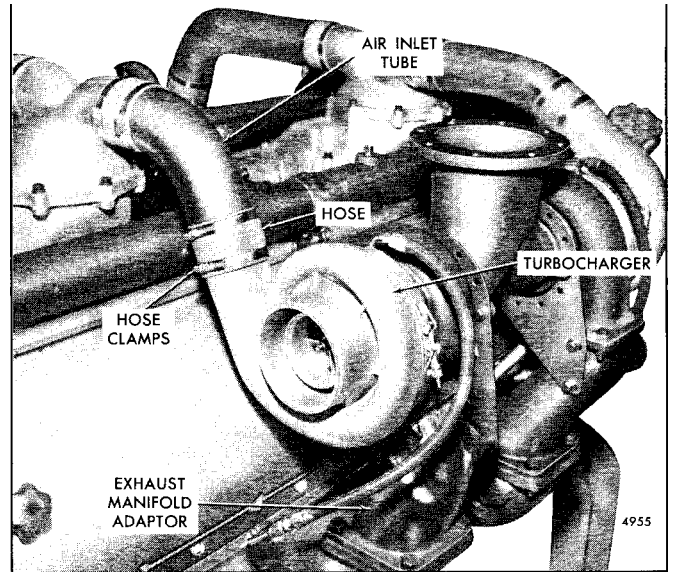

Fig. 8 - Turbocharger-to-Air Inlet Tube Connection
3. Loosen the two hose clamps securing the hose to the turbocharger and the air inlet tube and slide the hose up over the inlet tube (Fig. 8).